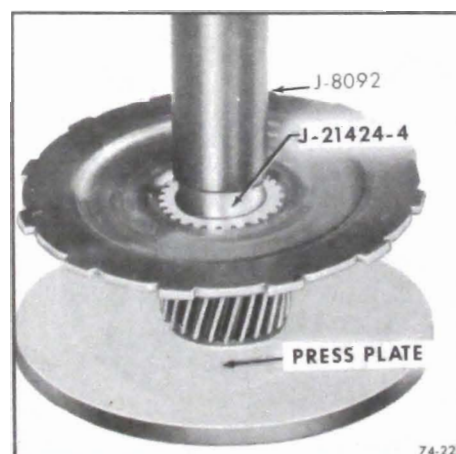

Figure 74-223
13. Check low sun gear and flange assembly bushing for nicks, severe scoring, or wear. If bushing replacement is necessary, proceed as follows: Support low sun gear assembly on press plate, using Tool J-21424-4 and Drive Handle J-8092 press out bushing. See Figure 74-223.